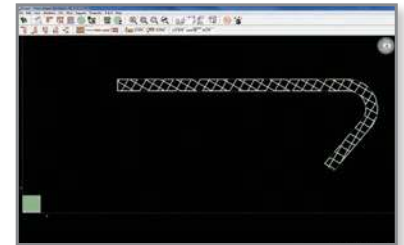

Figure 9: First region has a Sparse - double dense fill with no external contours.
STEP 5: Click **New** to create a new custom group and adjust the parameters to achieve the desired characteristics for the region. For example, change the part interior style to **Sparse-double dense** through **Custom Groups** (Figure 9).